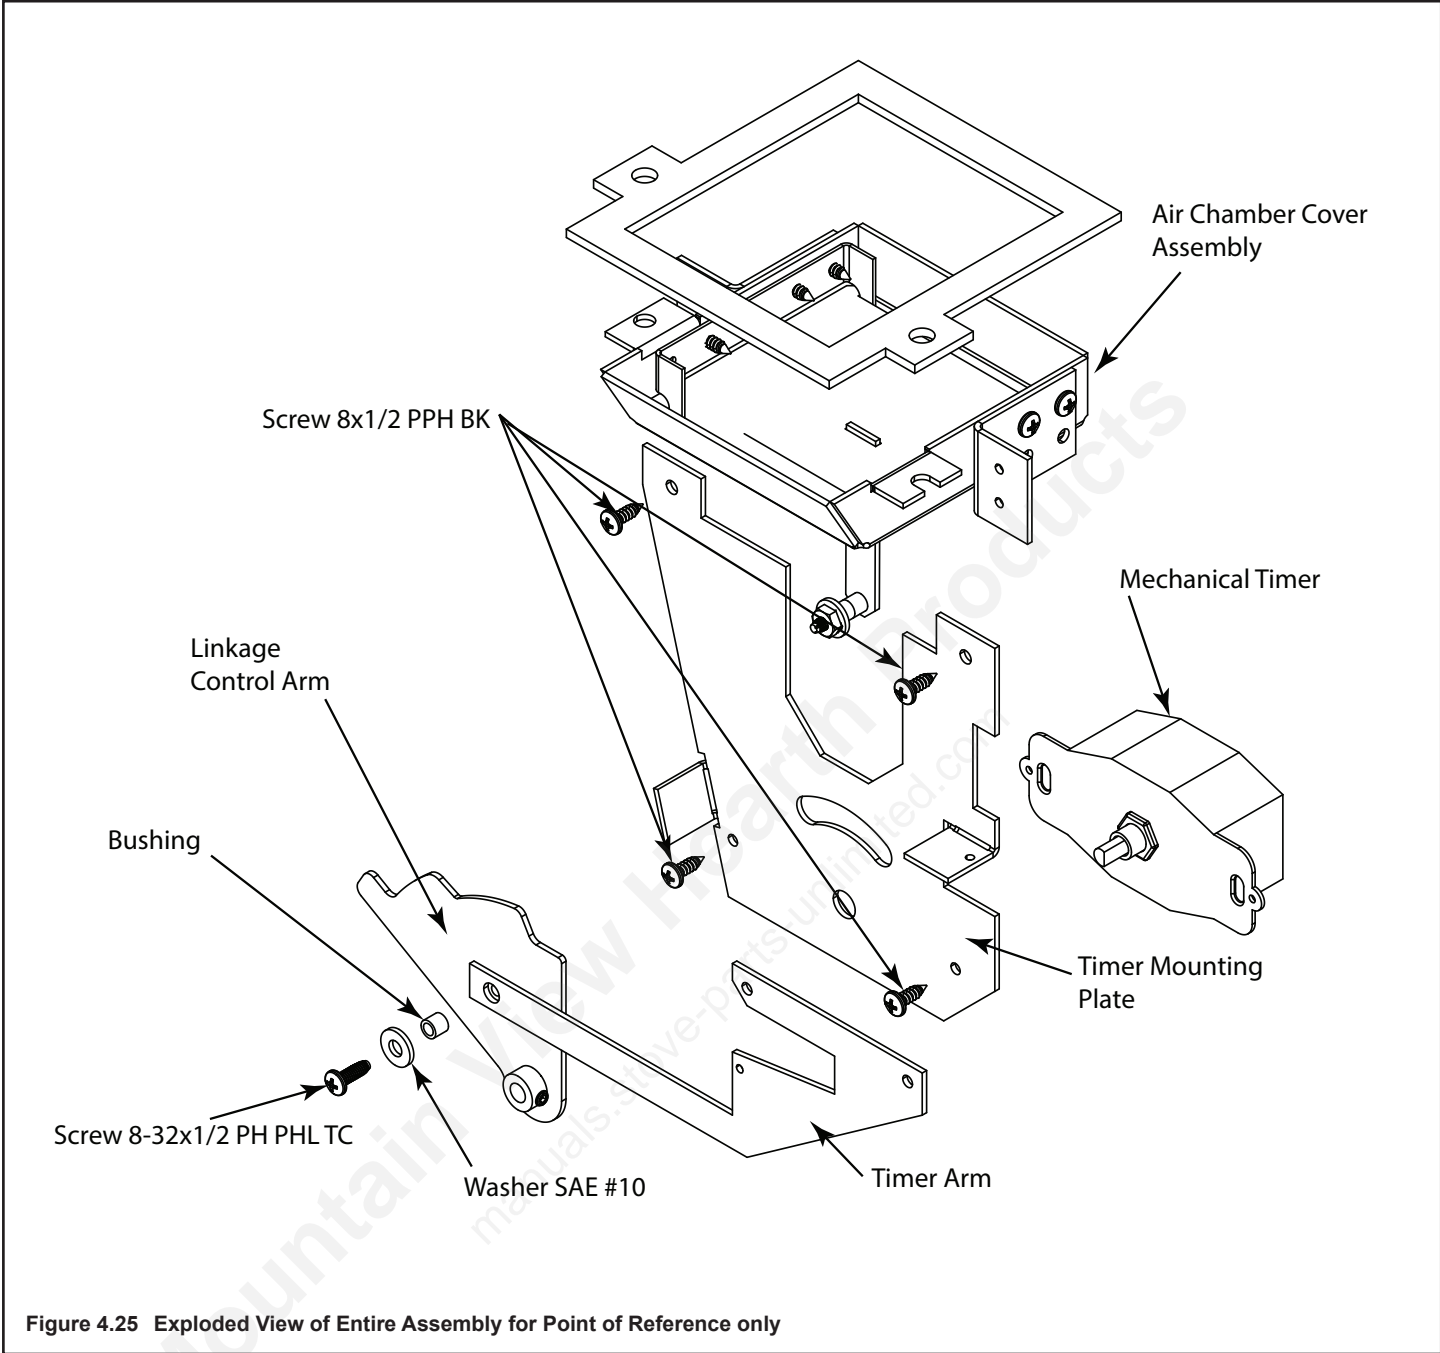

Figure 4.25 Exploded View of Entire Assembly for Point of Reference only
- See Figure 4.25 for exploded view of Timer Assembly.